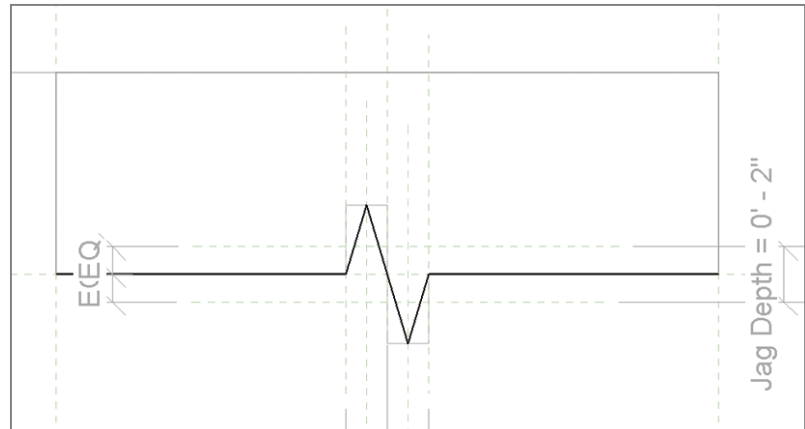

FIGURE 6.37 Sketch new jag lines in the masking region boundary.
6. From the Create tab in the ribbon, click the Line tool, and make sure Subcategory is set to Medium Lines at the right end of the ribbon. Draw new jag lines, as shown in Figure 6.37. Make sure the lines you draw snap to the midpoints of the previous jag lines and the end points of the remaining straight lines.